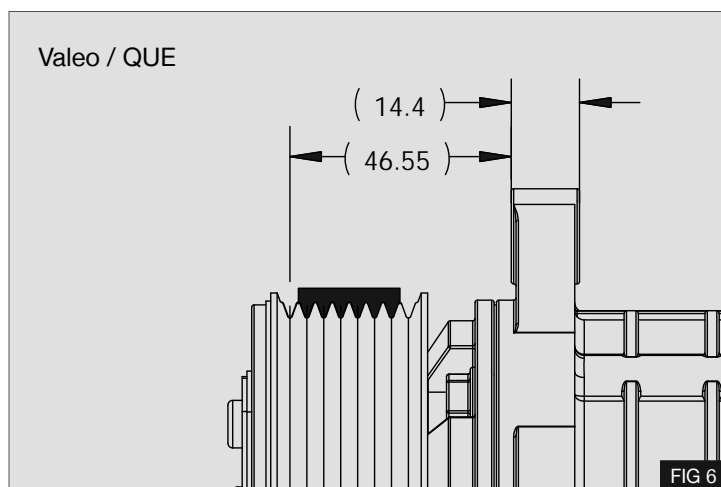

FIG 6
2. When correct tension has been achieved, tighten bolt (9) - Fig 6